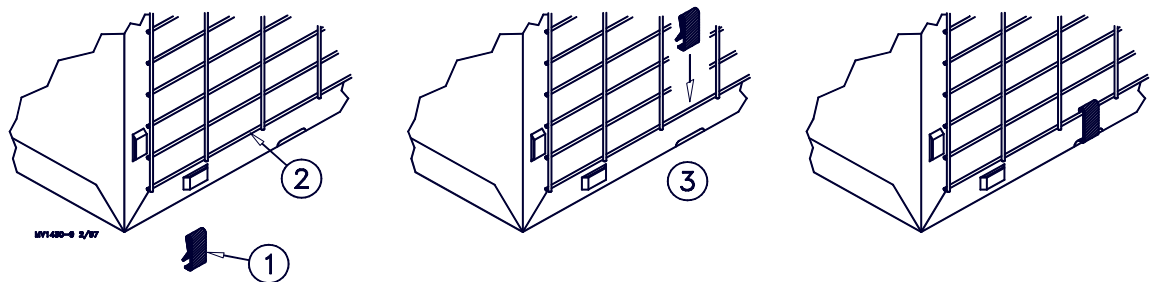

Figure 6. Screen Installation
Install (4) Wire Clips on each side to secure the Screen to the Panels. See **Figure 6**.
Position the rear Screen over the back of the fan. Install (4) Wire Clips on each side to secure the Screen to the Panels. See Figure 6.